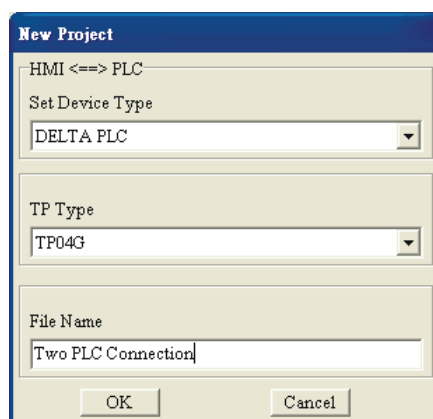

Figure 3-8
Step 2. After clicking  or selecting **File (F) > New**, to create a new file, the New Project dialog box will display (Figure 3-8). Enter the Set Device Type, TP Type and File Name. Click **OK** button, and a new editing screen will be opened in TPEditor.